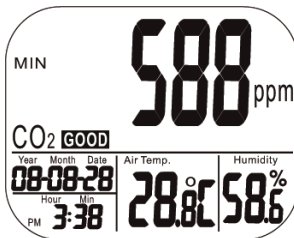

Fig. 4: Minimal value
- In MIN and MAX modes, it shows the minimum and maximum readings of CO₂ on the main display and the air temperature and the humidity on the lower display. (Fig. 4)